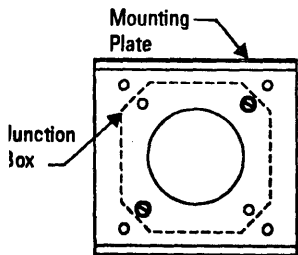

Fig. 2b
2. Place branch circuit leads through hole in mounting plate, aligning correct hole patterns between mounting plate and junction box and use screws supplied with junction box to securely attach mounting plate as shown in Fig 2b.